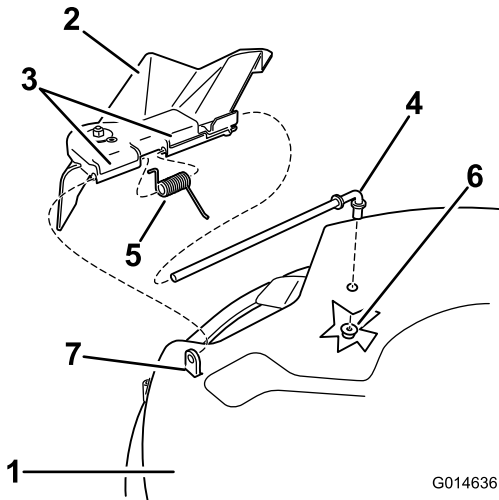

Figure 57
1. Locate items shown in Figure 57.
7. Place the spring on the rod, with end wires down, and between the grass deflector brackets. Slide rod through second grass deflector bracket (Figure 57).
9. Secure rear end of rod into the mower with a nut (3/8 inch) as shown in Figure 57.
2. Remove the nut (3/8 inch) from the rod under the mower (Figure 57).
3. Slide the rod out of the short stand-off, spring, and grass deflector (Figure 57).
5. Replace the grass deflector (Figure 57).